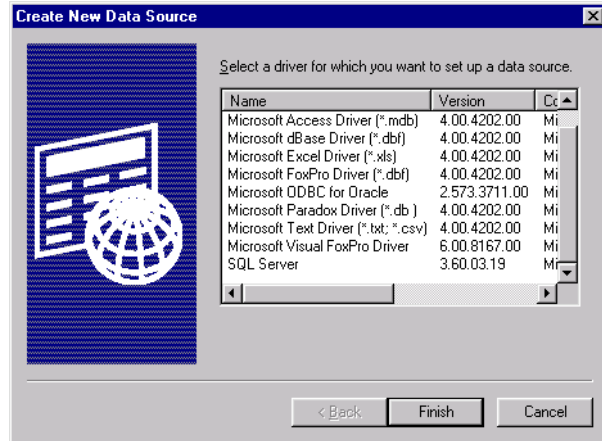

Figure B-20: Create New Data Source Dialog Box
4. In the Create New Data Source dialog box (Figure B-20), select the Microsoft Access Driver and click Finish.